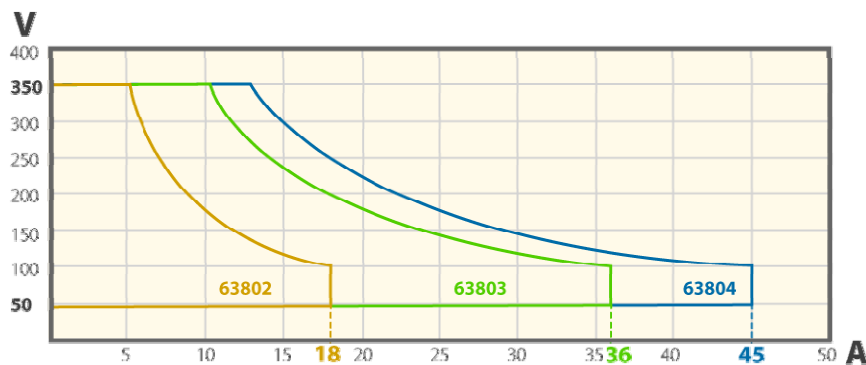

Figure 3-2 Operating Boundary of Power, Voltage and Current
All data set in any mode will be rescaled to fit the resolution of current/voltage levels, power value, crest factor (CF) or power factor (PF). In local mode any value can be set to the Load from the keypad. There is no upper and lower limit that would cause an error. The Load automatically selects data, which is rescaled from the programmed value, truncates and checks high, low boundary before fitting it into the memory. When the programmed data is over the boundary, the Load will be still at original value. In remote mode the programmed value cannot be over boundary. An error will occur when data is over the maximum or minimum value. The boundary of voltage and current of the load, as well as the power, are shown in *Figure 3-2*.